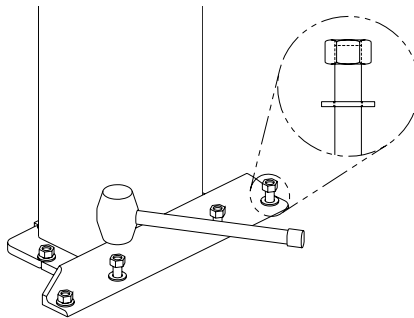

Figure 6
- N. Feed one end of an equalization cable down through the rightmost hole in the carriage top, figure 6. Continue to feed the cable until it extends out the bottom of the carriage. Attach a nylon insert locknut and washer to the end of the cable so that 1/8" of cable stud extends past the end of nut. Pull the opposite end of the cable until the washer contacts the carriage top. Repeat for the other cable/carriage.